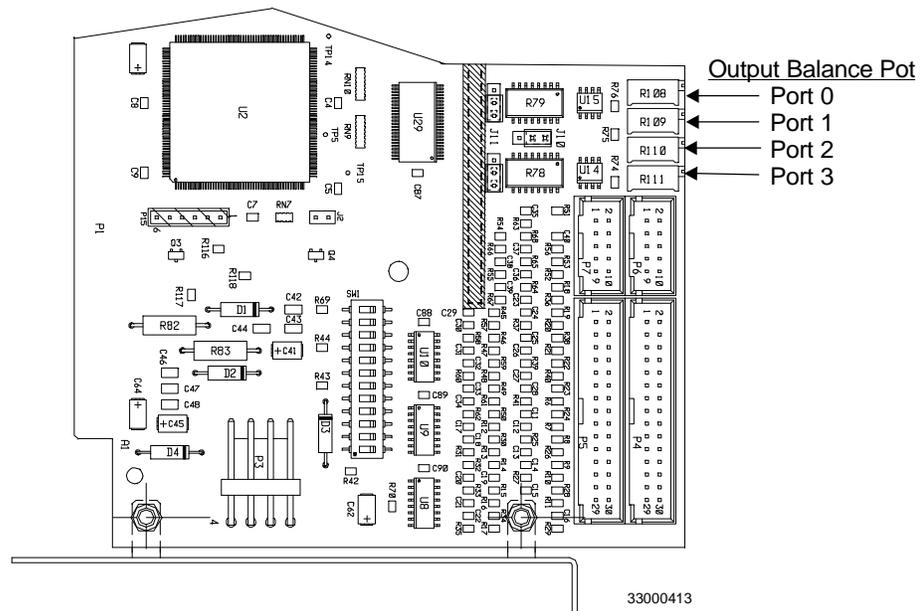

Figure 5, ANILAM DSP² Board Balance Pots, P/N 33000413
Refer to **Figure 5, ANILAM DSP² Board Balance Pots, P/N 33000413**. Measure command voltages across TP1 and TP2 of the test board.
3. Refer to **Figure 5**. Make adjustments for axis outputs 0-3 on the DSP² Board at potentiometers R108-R111 respectively.